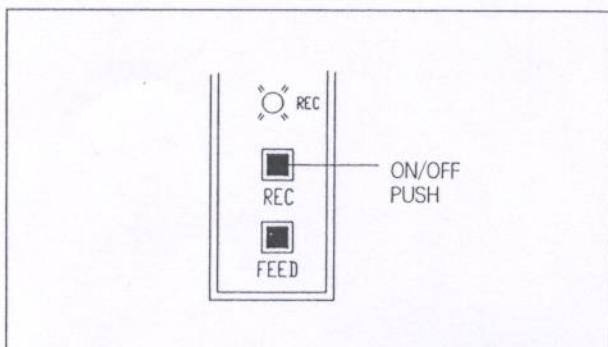

Fig 5.10
- 4) Turn on REC S/W referring to fig 5.10 (REC-Lamp will be on).